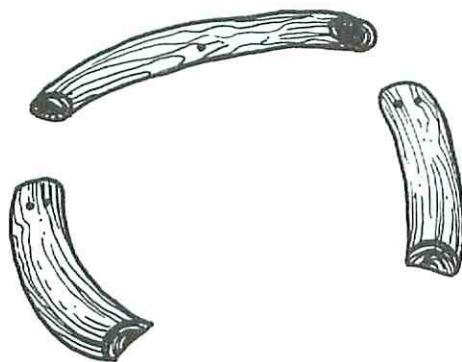

Figure 2
To neatly fit the pieces together, you’ll need to make scarf cuts at both ends of the rear seat rail (C) and one end of the side seat rails (D). See Fig. 2. (If you only have one piece for the side seat rails and haven’t mirror-cut it yet, then get on with it.)